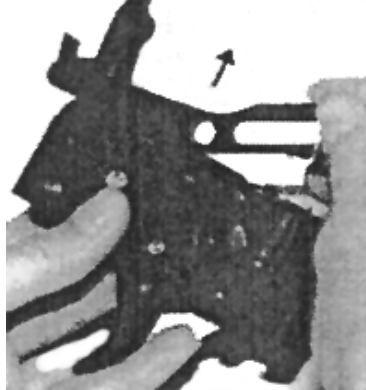
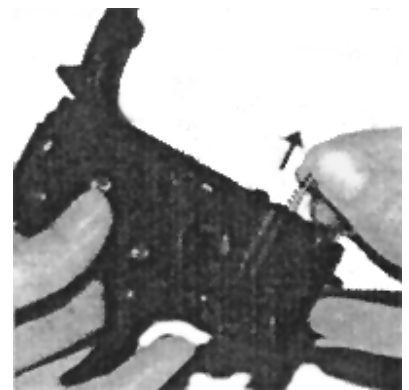

Figure 2
Figure 3
- Lift *ejector* up (Fig. 2) and then remove *ejector spring* from top of housing (Fig 3).